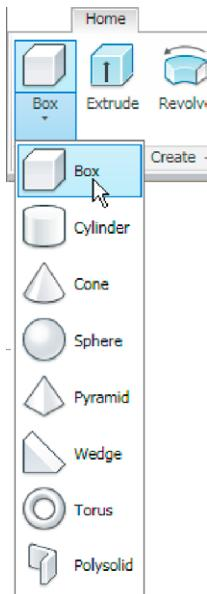

Fig. 12.23 Selecting Box from the Home/Create panel
4. Click the **Box** tool icon in the **Home/Create** panel (Fig. 12.23). The command line shows: